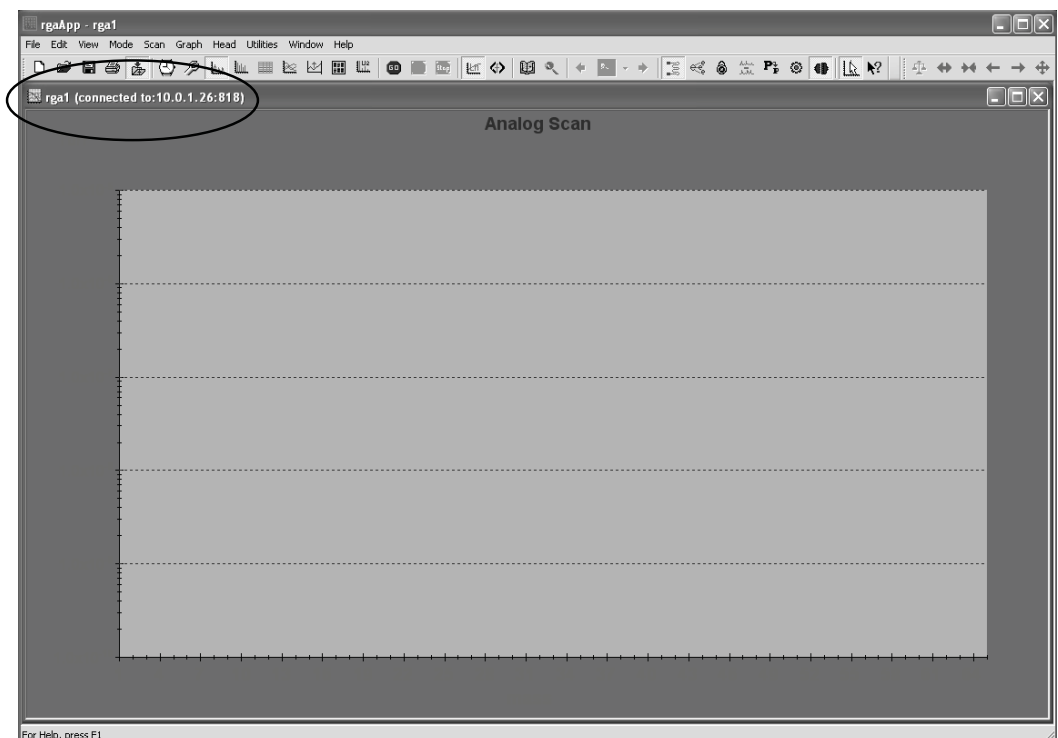

Figure 3-7 RGA software screenshot showing connection information below the toolbar
10. Click the 'Connect' button and close the dialog box. The main RGA screen shown in Figure 3-7 will appear and the RGA is ready to use.